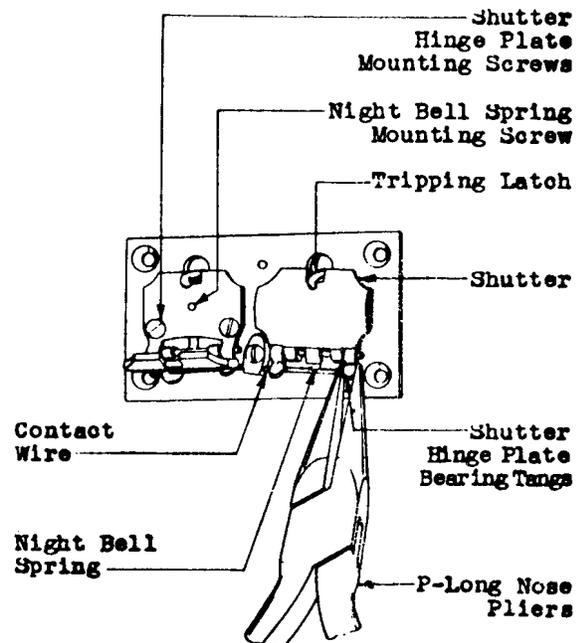

Fig. 6 - Method of Adjusting the Shutter Hinge Plate Bearing Tangs
(4) If the side-play of the shutter is excessive adjust the hinge plate bearing tangs to the left or right as required with the P-long nose pliers as shown in Fig. 6. If the tangs are adjusted note that the shutter will still drop sufficiently to close the night bell contact reliably as indicated by the operation of the alarm circuit.
(1) If the shutter does not move freely on its hinge pin, the trouble may be due to dirt, in which case the shutter hinge pin and shutter hinge plate should be cleaned as covered in 3.01 (3).
(2) Bind may also be due to a bent hinge pin or to lack of clearance between the shutter and the hinge plate bearing tangs. If the hinge pin is bent, replace it with a new one. If the bind is between the shutter and the shutter hinge plate bearing tangs adjust the tangs with the P-long nose pliers as shown in Fig. 6 away from the shutter and recheck requirement 2.03.